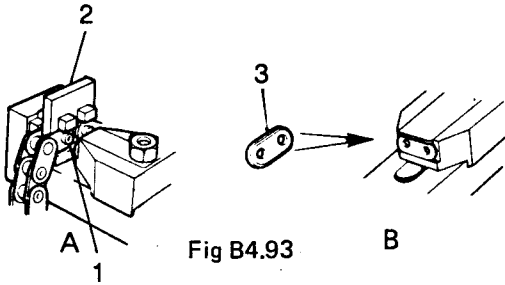

Fig B4.93
- (8) Refer to Fig B4.93. Join the ends of the chain with a new link and position the link in the anvil with the head of the pins towards the press.
- (9) Fit the locating bridge (2) with its legs centralising the link in the anvil.
- (10) Locate the plate of the link (3), chamfered side away from the chain, on the bed of the press.
- (11) Press the plate fully onto the link pins, ensuring that the holes and pins are aligned.
- (12) Retract the press.